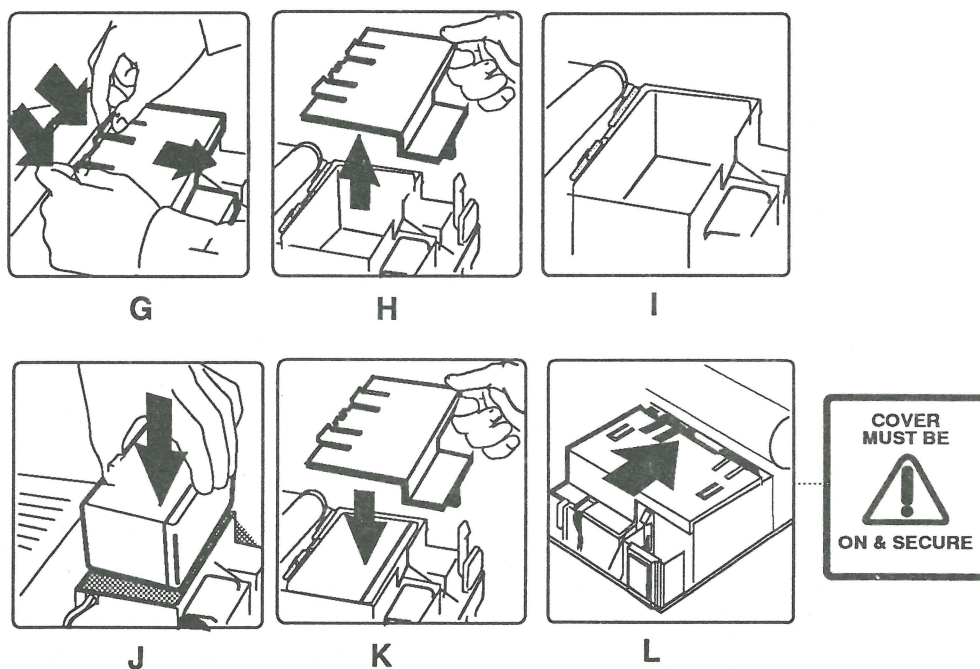

FIGURE 3
2. **Figure 3-A.** Press down on the two plastic tabs at the front of the battery cover and slide the battery cover toward the rear of the computer.
3. **Figure 3-B.** Lift off the battery cover.
4. **Figure 3-C.** Lift out the main battery.
5. **Figures 3-D, 3-E, and 3-F.** If you are doing anything other than replacing the main battery, replace the battery cover by placing the battery cover on the battery compartment and sliding it evenly toward the front of the computer until it snaps in place.
1. **Figures 3-G and 3-H.** If the battery cover is on, remove it.
2. **Figures 3-I and 3-J.** Place the battery into the battery compartment. The tab on the battery should be facing toward the front of the computer.
3. **Figures 3-K and 3-L.** Place the battery cover on the battery compartment and slide it evenly toward the front of the computer until it snaps in place.